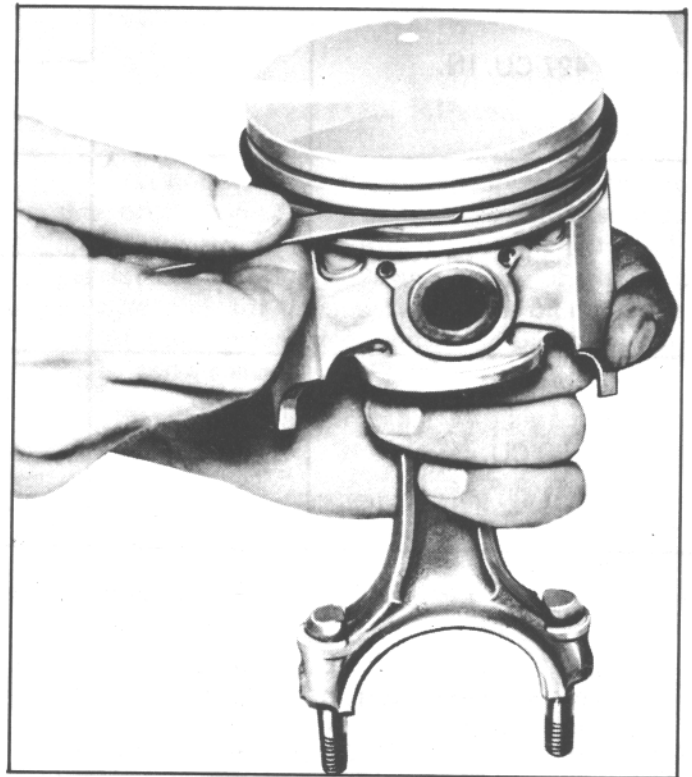

Fig. 81. Measuring Ring Groove Clearance
9. Proper clearance of the piston ring in its piston ring groove is very important to provide proper ring action and reduce wear. Therefore, when fitting new rings, the clearance between the surfaces of the ring and groove should be measured (Fig. 81, See Specifications).